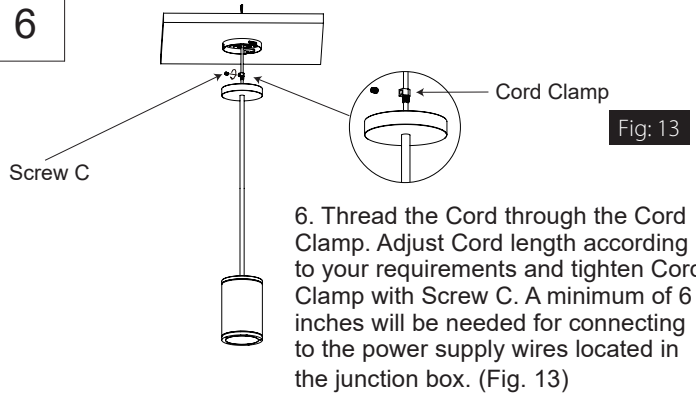

Fig: 13
6. Thread the Cord through the Cord Clamp. Adjust Cord length according to your requirements and tighten Cord Clamp with Screw C. A minimum of 6 inches will be needed for connecting to the power supply wires located in the junction box. (Fig. 13)